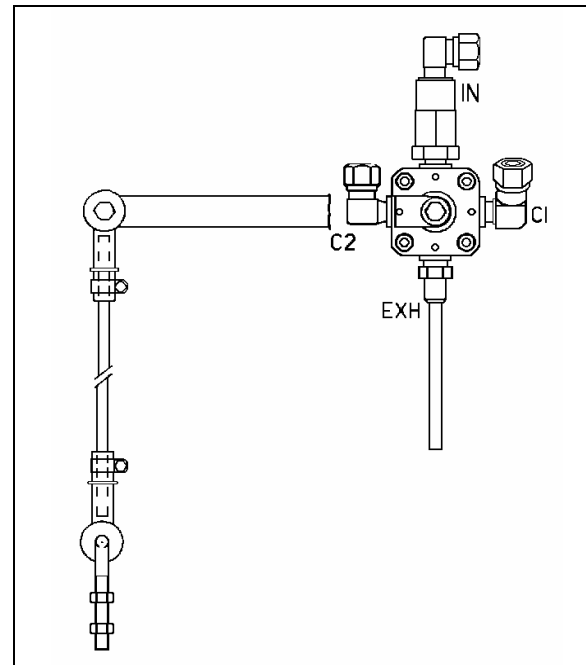

FIGURE 41: REAR HEIGHT CONTROL VALVE 16093
2. Loosen the clamp on the height control valve rubber coupling and bring it up or down (Fig. 41).